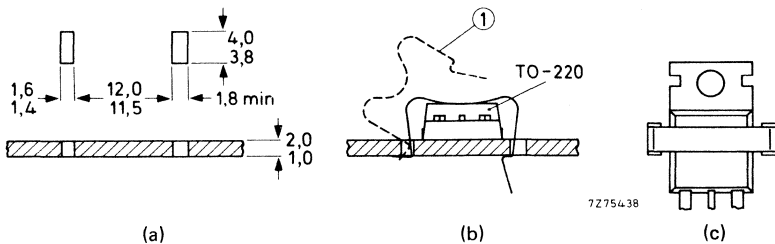

Fig. 1 (a) Heatsink requirements; (b) mounting (1 = spring clip); (c) position of the device (top view).
2. Push the short end of the clip into the narrow slot in the heatsink with the clip at an angle of  $10^\circ$  to  $30^\circ$  to the vertical (see Fig. 1).
3. Push down the clip over the device until the long end of the clip snaps into the wide slot in the heatsink. The clip should bear on the plastic body, not on the tab (see Fig. 1(c)).